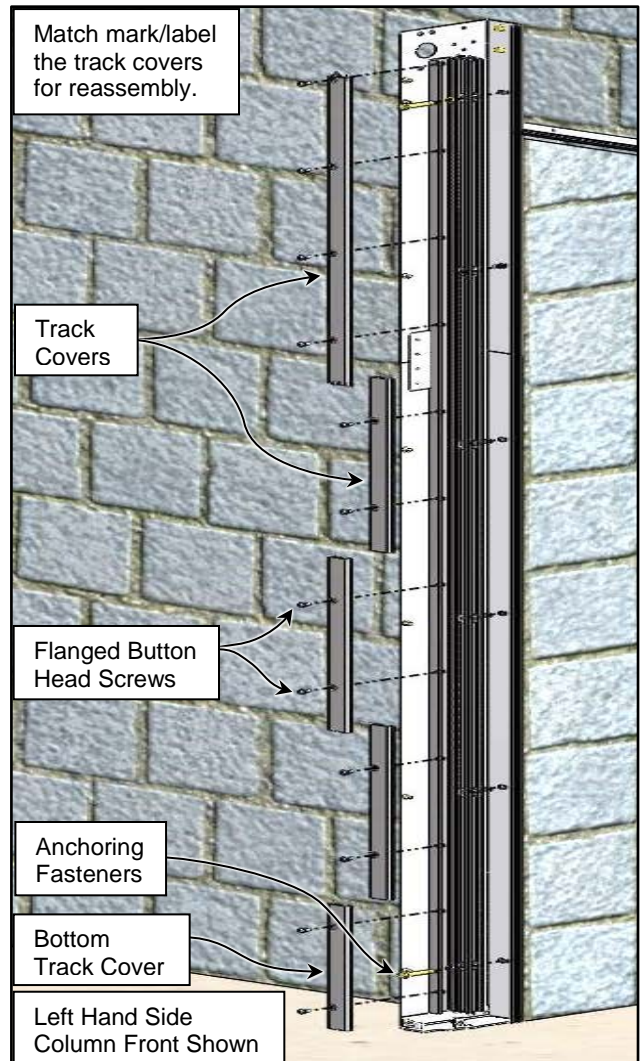

Figure 27
- Remove the Track Covers from the Lower Track Assembly by taking off the Button Screws. We suggest match marking the Track Covers to where they were originally installed on the Lower Track Assembly. This will aid in reassembly and ensure the covers are replaced properly. (See Figure 27)